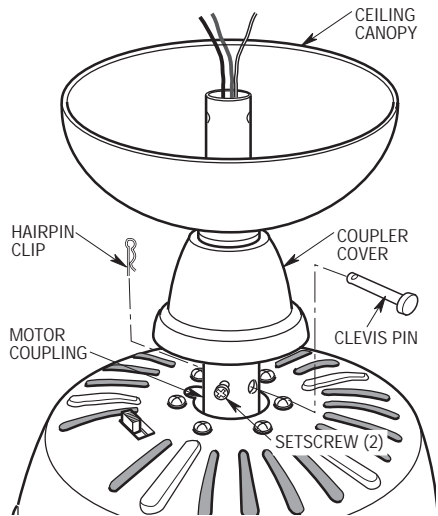

Figure 3
- 3. While pulling up on the downrod, securely tighten the two setscrews in the motor coupling (Figure 3).
- 4. Make sure the grommet is properly installed in the coupling cover then slide the coupler cover on the downrod until it rests on the motor housing. Place the ceiling cover over the downrod. Be sure both the ceiling cover and the coupler cover are oriented correctly (Figure 3).